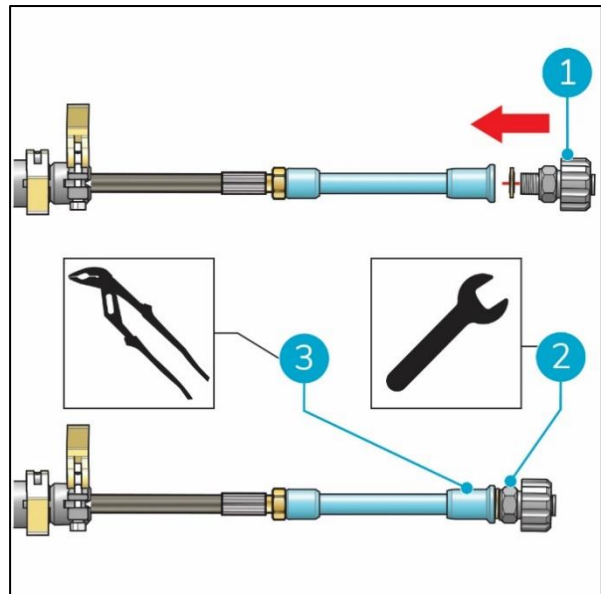

Figure 11
6. Connect the screw joint to the adaptor (Figure 11, pos 1), hold the adaptor.
7. Hold the adaptor with a pipe wrench (Figure 11, pos 3) and turn the nut (Figure 11, pos 2) clockwise with a 22 mm wrench to tighten it.